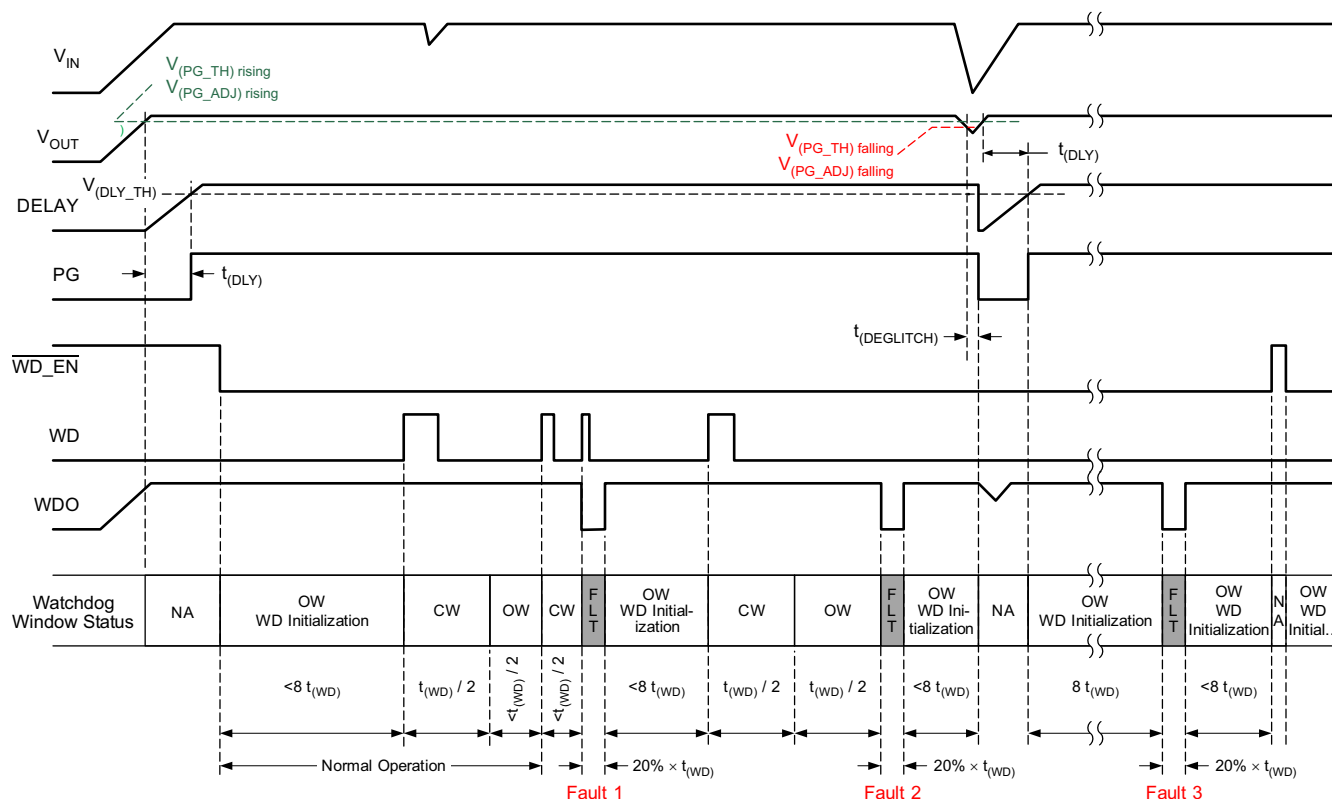

Figure 7-4. Window Watchdog Operation
The window watchdog is able to monitor whether the frequency of the watchdog service signal (WD) is within certain ranges. A watchdog low-voltage fault is reported when the frequency of the watchdog service signal is out of the setting range. Figure 7-4 shows the window watchdog initialization and operation for the TPS7B63xx-Q1 (WRS is low). After the output voltage is in regulation and PG is high, the window watchdog becomes enabled when an external signal pulls $\overline{\text{WD_EN}}$ (the watchdog enable pin) low. This causes the watchdog to initialize and wait for a service signal during the first initialization window for 8 times the duration of t_{WD} . A service signal applied to the WD pin during the initialization open window resets the watchdog counter and a closed window starts. To prevent a fault condition from occurring, watchdog service must not occur during the closed window. Watchdog service must occur during the following open window to prevent a fault condition from occurring. The fault output (WDO), externally pulled up to V_{OUT} (typical), stays high as long as the watchdog receives a proper service signal and there is no other fault condition.
Three different fault conditions occur in Figure 7-4: